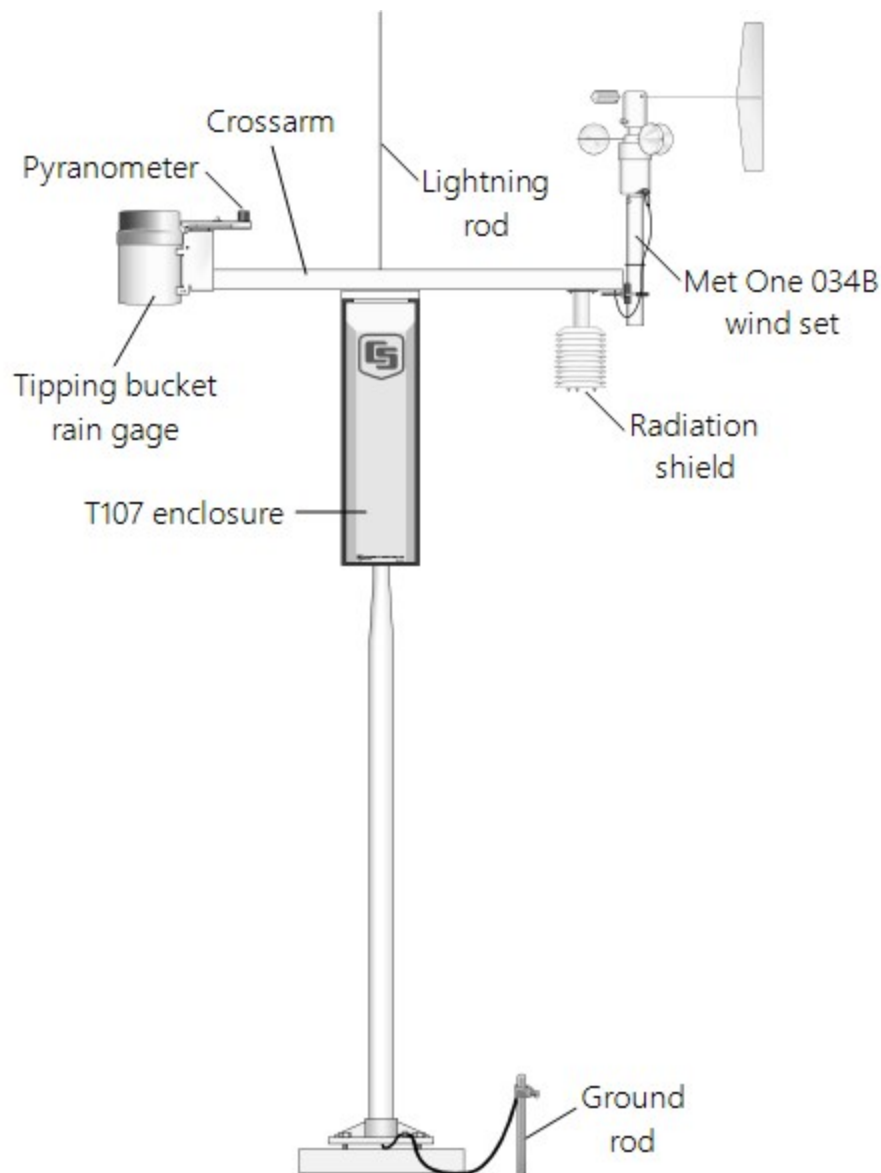

FIGURE 6-8. T107 instrumentation mounted on the T107 pole
- (1) T107 crossarm with sensors (FIGURE 6-8 (p. 22))